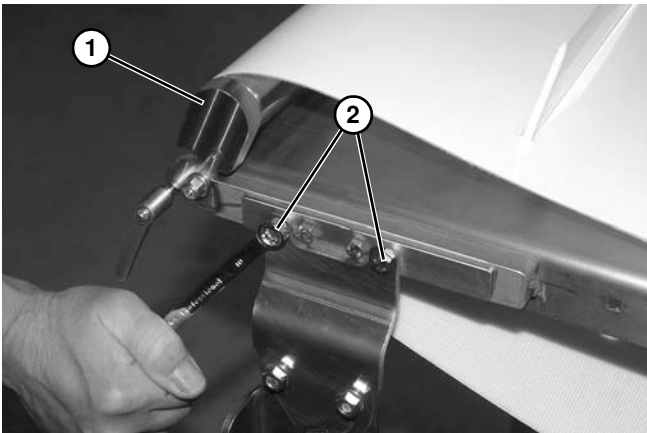

Figure 54
8. Rotate idler end (**Figure 54, item 1**) upward as shown.
9. Remove two screws (**Figure 54, item 2**) securing the stand brackets from one side of the conveyor.